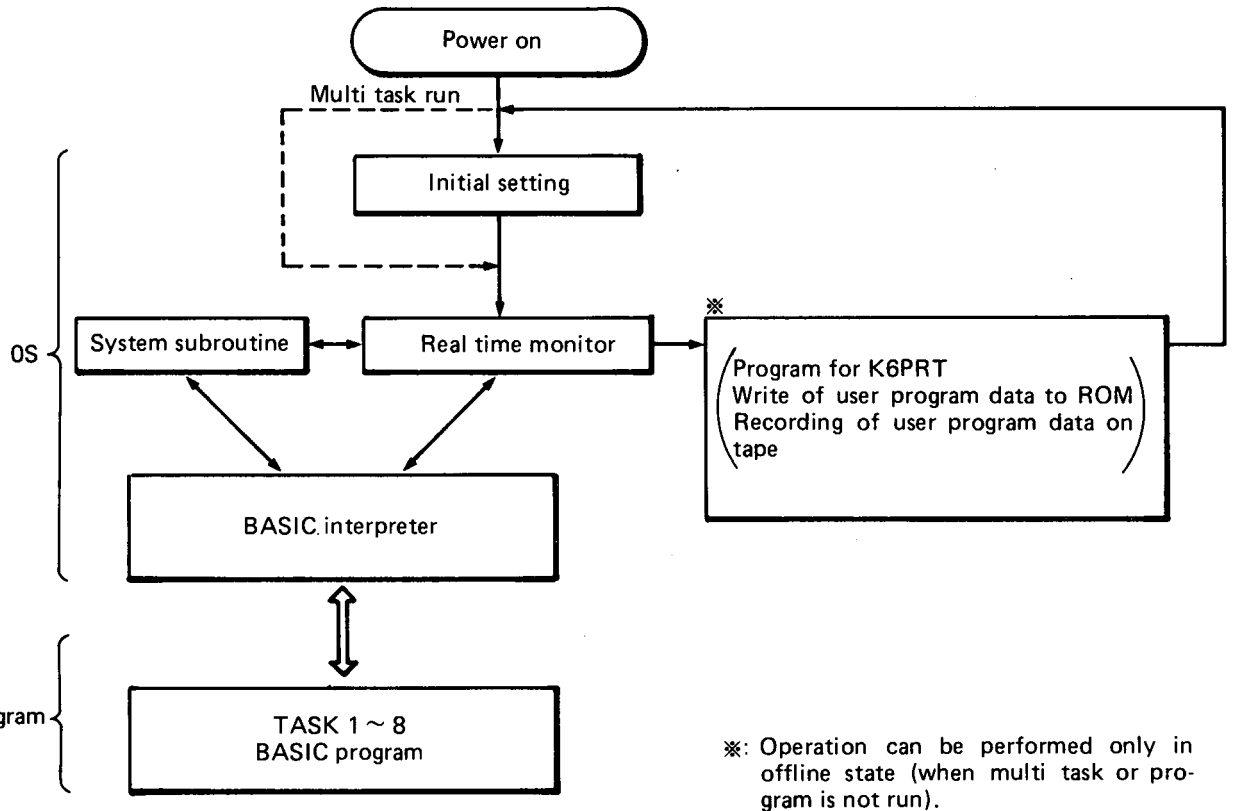

Fig. 7.1 Software Configuration
- (1) As shown in Fig. 7.1, a maximum of eight user programs can be processed in parallel under control of real time monitor.
- (2) The start conditions of user program are available in three types; "power on", "KCPU interruption caused by KCPU" and "real time interruption".
- (3) Each task of user program is only the basic program.